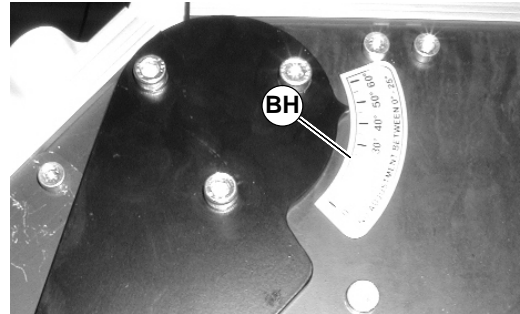

Figure 48
4. Move conveyor to desired angle as indicated by angle label (BH of Figure 48).
- Move conveyor to desired angle as indicated by angle label (BH of Figure 48).